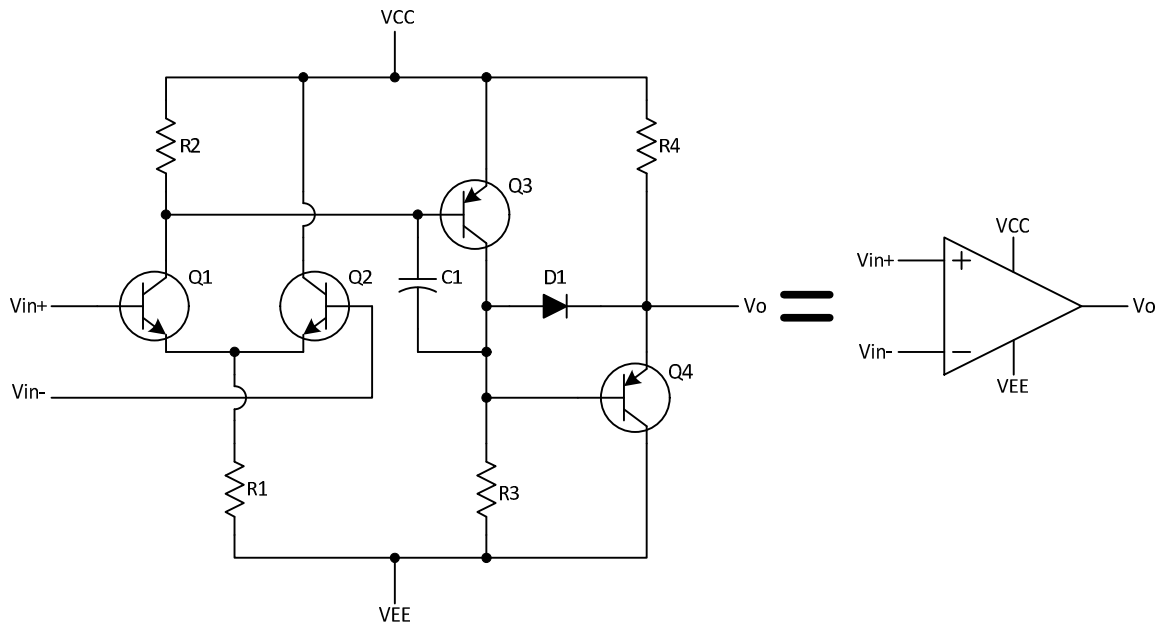

Figure 1: Simple operational amplifier
- 1.1 Build the circuit in Figure 1. Take care to accurately build the circuit as wiring errors will cause major malfunctions and possible destruction of the transistors. Use $V_{CC} = +15$ volts, $V_{EE} = -15$ volts, $R1 = 100K$, $R2 = 10K$, $R3 = 62K$, $R4 = 3.6K$, $C1 = 220$ pF – initially do not install this capacitor – only use if the circuit oscillates (can use any value between 100 and 1,000 pF if 220 pF not available), NPN transistors are 2N3904, PNP transistors are 2N3906, D1 is 1N4148.